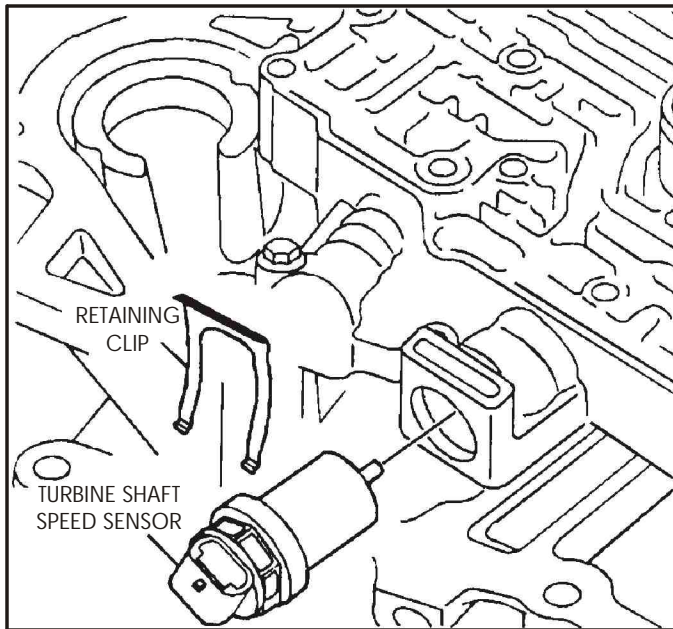

Figure 61
12. Remove the input speed sensor clip using a small screwdriver and prying the clip out of the channel plate, as shown in Figure 61.
13. Carefully remove the input speed sensor from the channel plate (See Figure 61).